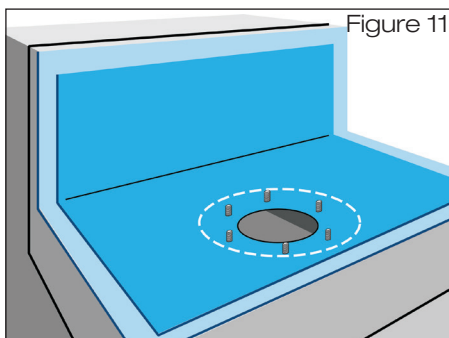

Figure 11
- 3.3 Cut the **connecting sheet** of the existing plastic roof sealing sheet, with a size of 700 mm x 1000 mm to length on site (Fig. 11). Use a hole punch to make 14 mm diameter holes in the connecting sheet for the threaded bolts to pass through. The loose flange can be used as a template. Insert the enclosed compression seal (drawn dotted) **under** the connecting sheet on the fixed flange, and spread the perforated connecting sheet over the drain with fixed flange. Join the connecting sheet by welding with the layer of roof sealing sheet that has already been laid in accordance with the **processing instructions from the manufacturer of the roof sealing sheet**. If a second compression seal is needed under the base plate, this can be made by the customer from the same material as the roof sealing sheet. The loose flange can be used as a template here again. A second compression seal, item no. 21810.100X, can alternatively be requested from the LOROWERK factory.